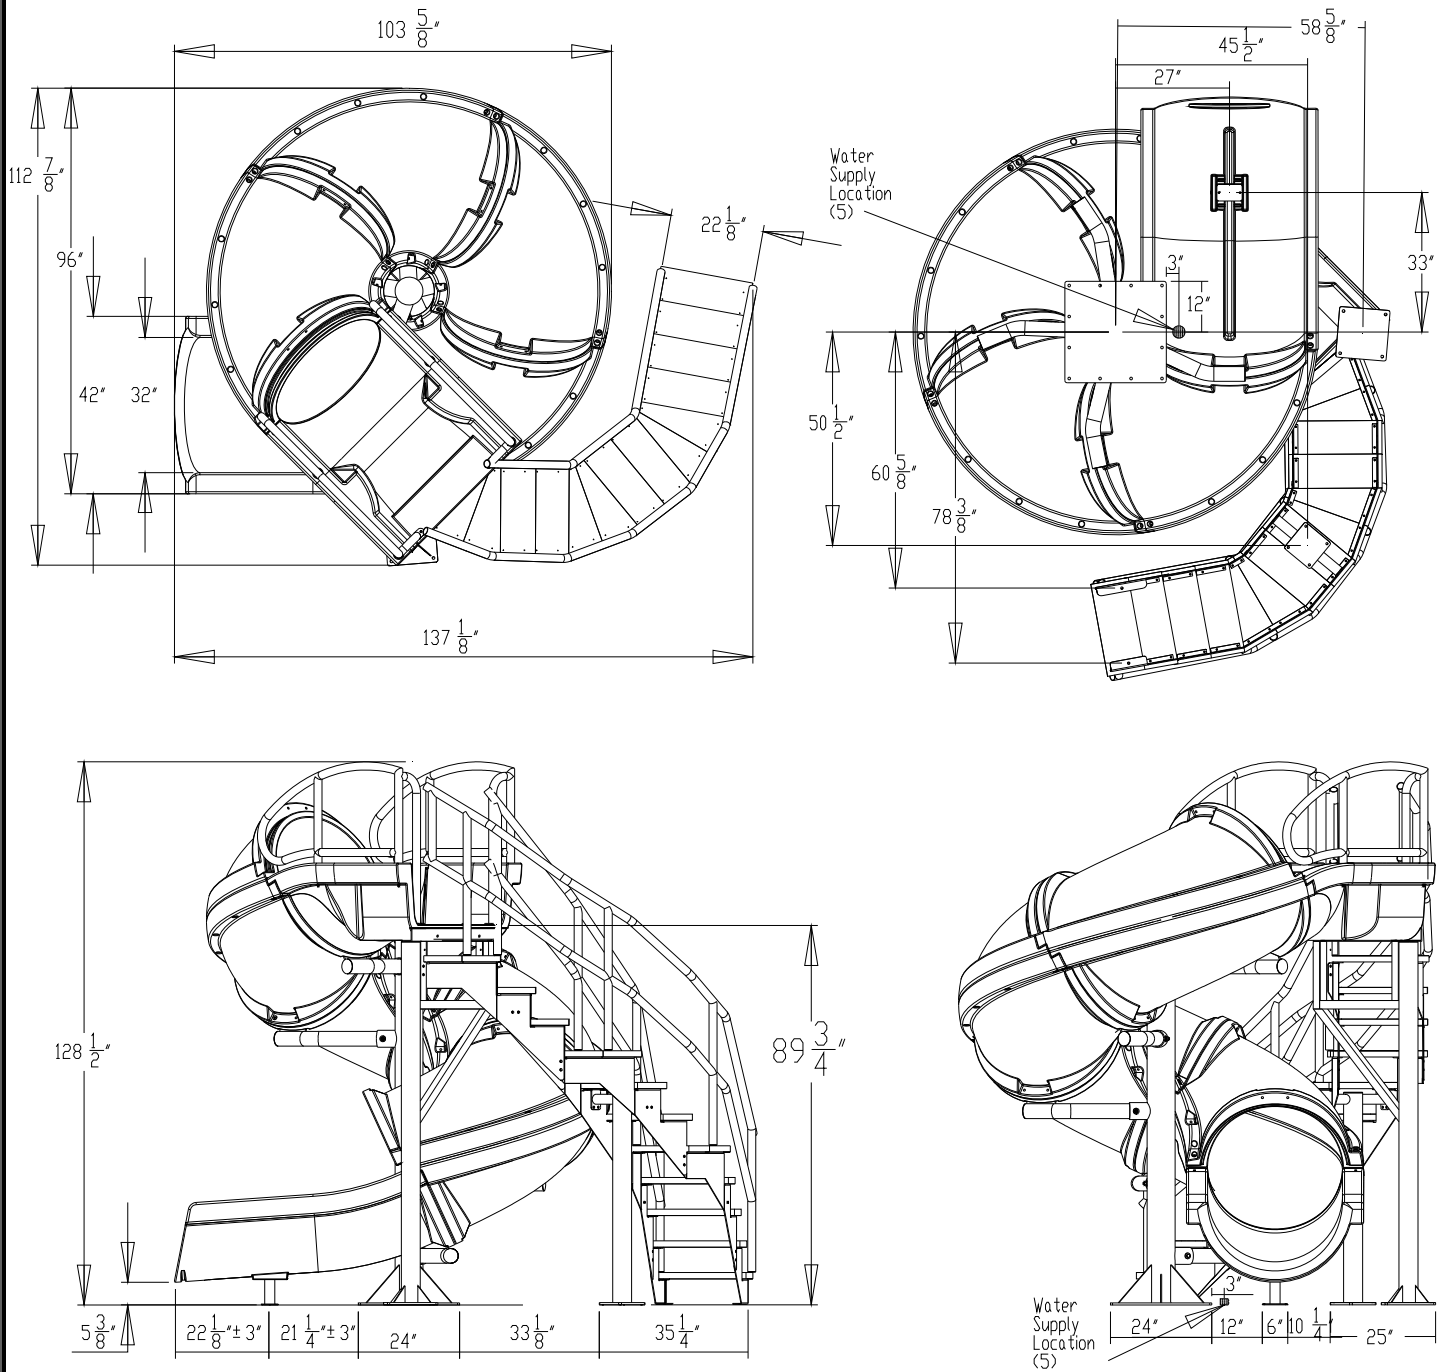

FIG. 1
1) First, insert all five of the Branch Arms (4) into the Main Support (5). Ensure that the arms slide into the support sockets without damaging the powder coating. Align the holes in the main tube support with the holes in the branch arm and attach using the hardware shown in Figure 1. The required hardware is as follows: $\frac{1}{2}$ " – 13 x 5" Hex Head Cap Screw (15), $\frac{1}{2}$ " Flat Washer (17), $\frac{1}{2}$ " Nylon Washer (22), and $\frac{1}{2}$ " Nylon Washer (22), $\frac{1}{2}$ " Flat Washer (17), $\frac{1}{2}$ " Lock Washer (18), $\frac{1}{2}$ " Hex Nut (20) on the other side of the support. **It is important not to tighten the hardware at this point. ANTI-SEIZE NEEDS TO BE USED ON ALL BOLTS, and should be applied to the threading before attempting to place the nut on the bolt.**